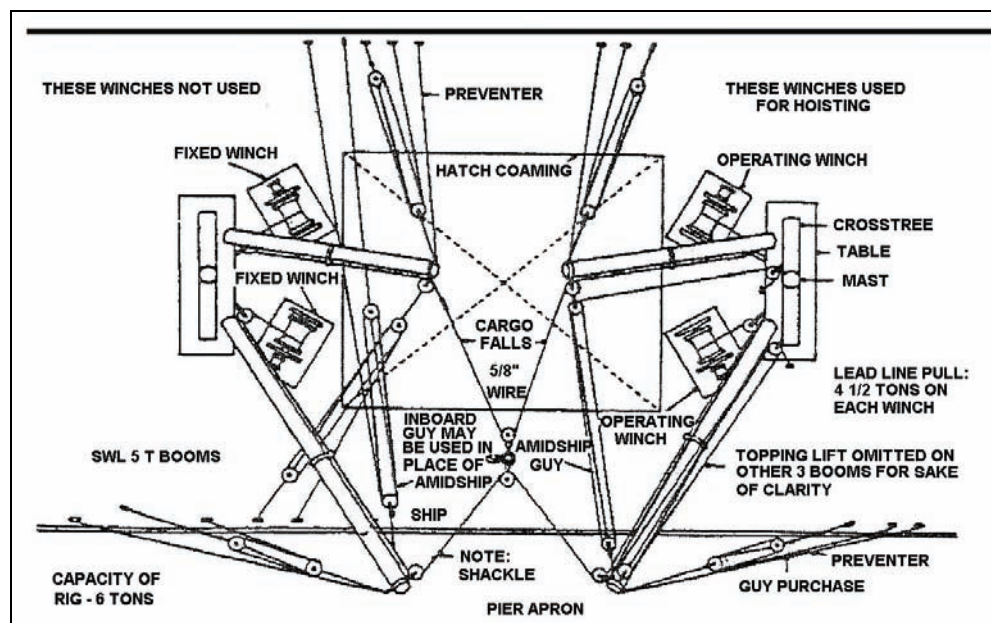

Figure 3-114. Rigging of Four Booms With a Block-in-Bight
1. Execute the procedures required to direct the rigging of four booms with a block-in-bight (see Figure 3-114).